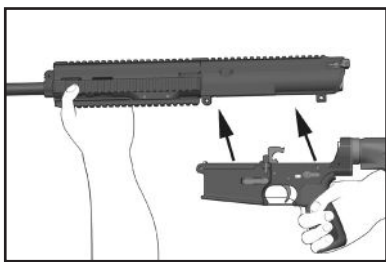
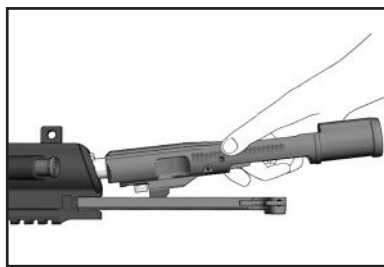

Fig. 39 – Removing the upper receiver
Fig. 40 – Removing Bolt & Charging Handle
- a. Remove the upper receiver from the lower receiver (Fig. 39), depress the catch on the charging handle and withdraw the bolt assembly from the rear (Fig. 40). Continue to pull the charging handle to the rear until resistance is encountered. Lift up on the charging handle and separate the charging handle from the upper receiver.